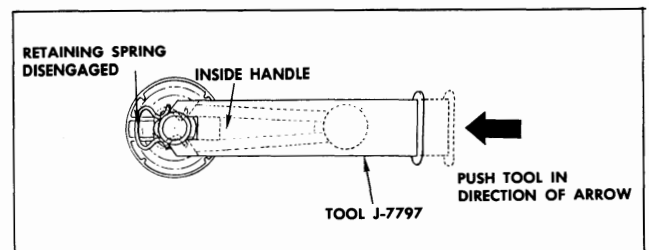

Fig. 12-4 Disengaging Inside Handle Retaining Spring
4. Push handle and retaining spring out of engagement and remove handle and bearing plate (Fig. 12-4).